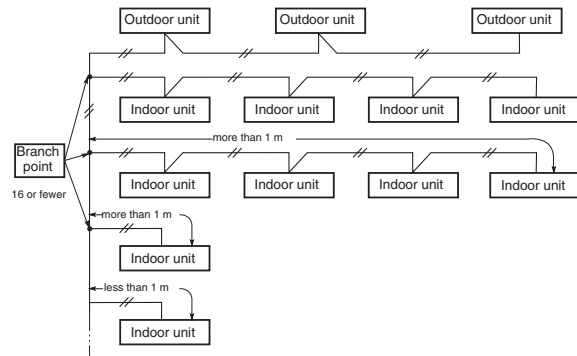

Fig. 4-3
(4) If branching the inter-unit control wiring, the number of branch points should be 16 or fewer. (Branches less than 1 m are not included in the total branch number.) (Fig. 4-3)